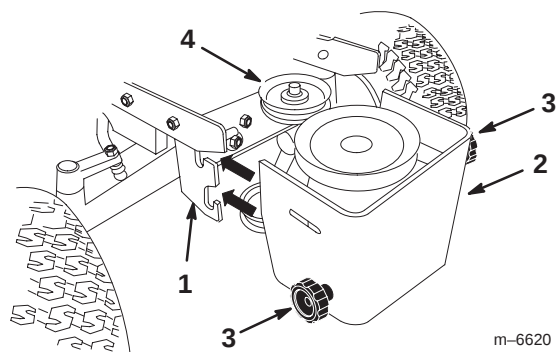

Figure 5
1. Turn the knobs to loosen the belts on the idler pulleys (Fig. 5).